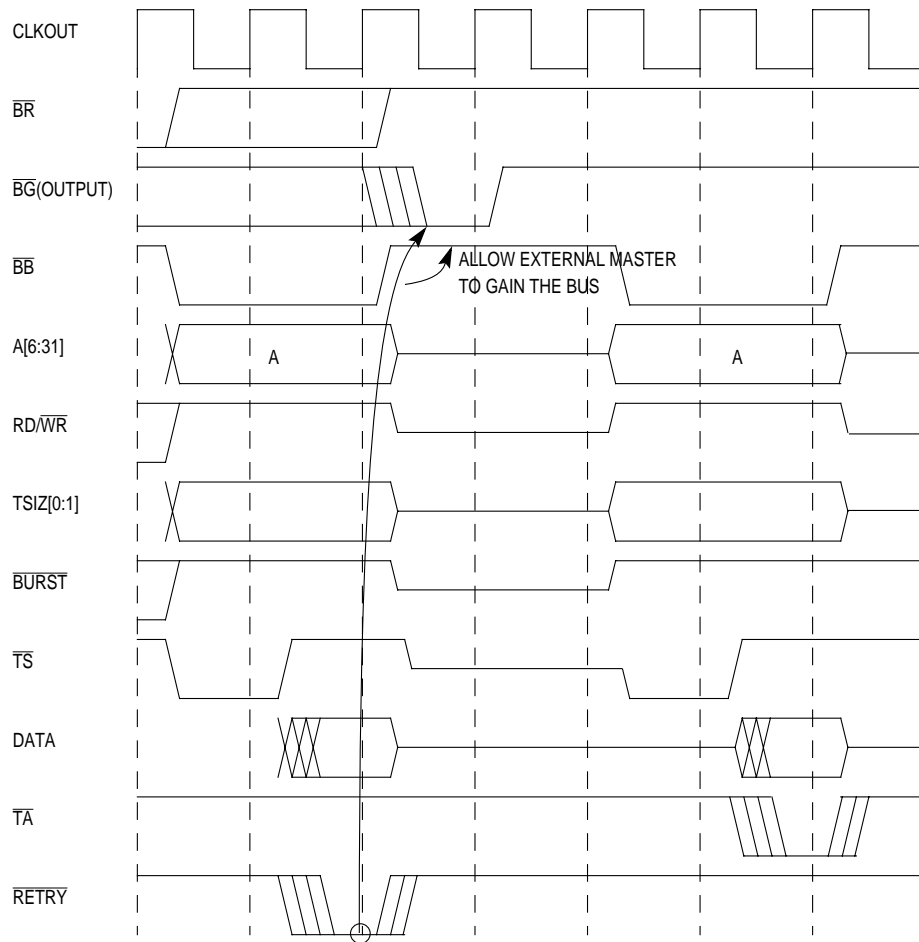
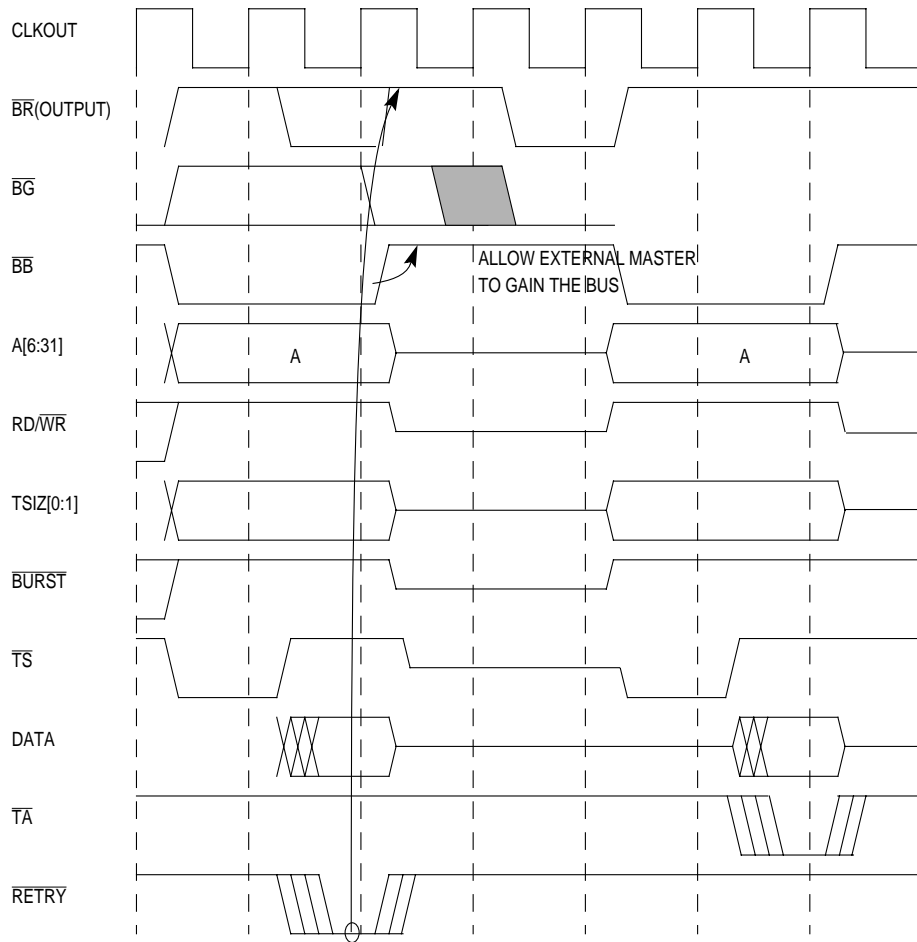

Figure 13-28.  $\overline{RETRY}$  Transfer Timing-Internal Arbiter
Figure 13-29. RETRY Transfer Timing-External Arbiter
**13.4.11.1 RETRY SIGNAL.** When an external device asserts the  $\overline{RETRY}$  signal during a bus cycle, the MPC823e enters a sequence in which it terminates the current transaction, relinquishes ownership of the bus, and retries the cycle using the same address, address attributes, and data. Figure 13-28 illustrates the behavior of the MPC823e when the  $\overline{RETRY}$  signal is detected as a termination of a transfer. The figure illustrates that when the internal arbiter is enabled, the MPC823e negates the  $\overline{BB}$  signal and asserts the  $\overline{BG}$  signal in the clock cycle following retry detection. This allows any external master to gain bus ownership. In the next clock cycle, a normal arbitration procedure may occur. The figure also shows that the external master did not use the bus, so the MPC823e initiates a new transfer with the same address and attributes as before. In Figure 13-29 the same situation is illustrated to show that the MPC823e is working with an external arbiter. In the clock cycle after the CPU recognizes that the  $\overline{RETRY}$  signal is asserted, the  $\overline{BR}$  and  $\overline{BB}$  signals are negated. One clock cycle later, the normal arbitration procedure may occur. This input signal requires a pull-up resistor.